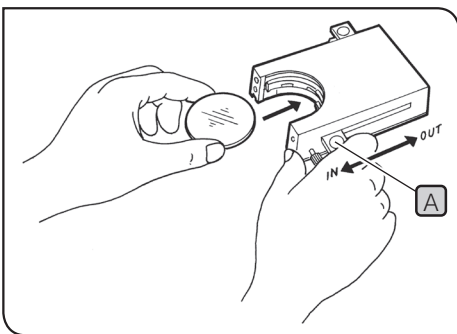

Fig.14
- Insert a filter in the U-FC filter cassette, attach it on the filter mount and engage it in the light path by sliding the filter level. (Fig.14)
**Using the filter cassette (Figs.14 to 16)**
- 2 Slide lever **A** to the IN position. Make sure that it clicks securely into place. (Fig.14)
- 3 Holding the lever in the position shown in Fig.14, put the filter into the cassette by inserting it in the direction indicated by the arrow.